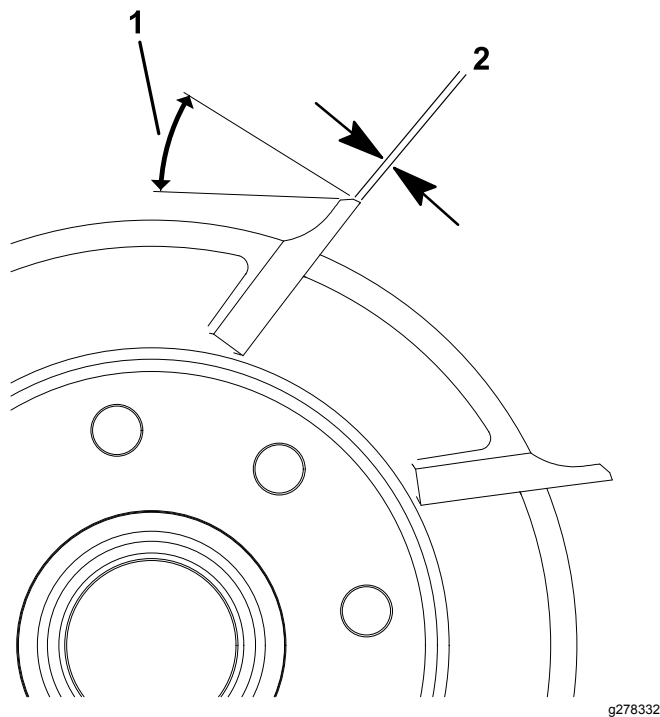

Figure 19
- 1. Apply a 30° relief grind on all reel blades until the land width is .76 mm (0.030 inch) wide (Figure 19).